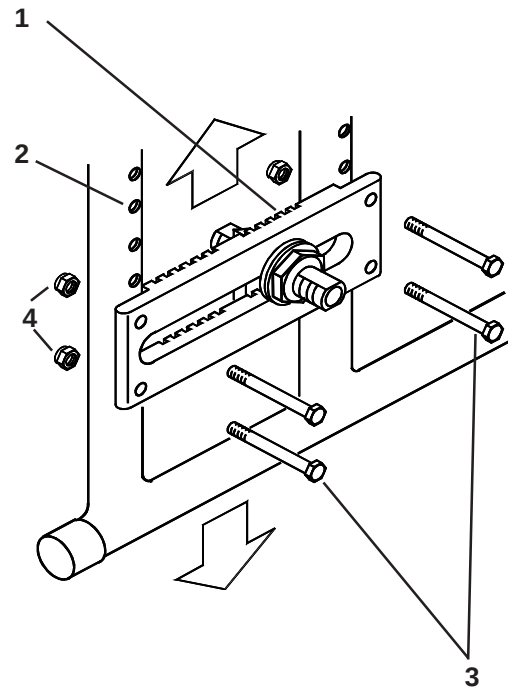

Fig. 40
Seat height (Fig. 40) can be adjusted by moving the axle plate (1) up or down the frame within a range of 50mm (2") seat height adjustment. The four bolts (3) and nuts (4) per axle plate must be removed and positioned as required, then tightened to 8-10Nm torque, using two 10mm A/F spanners.